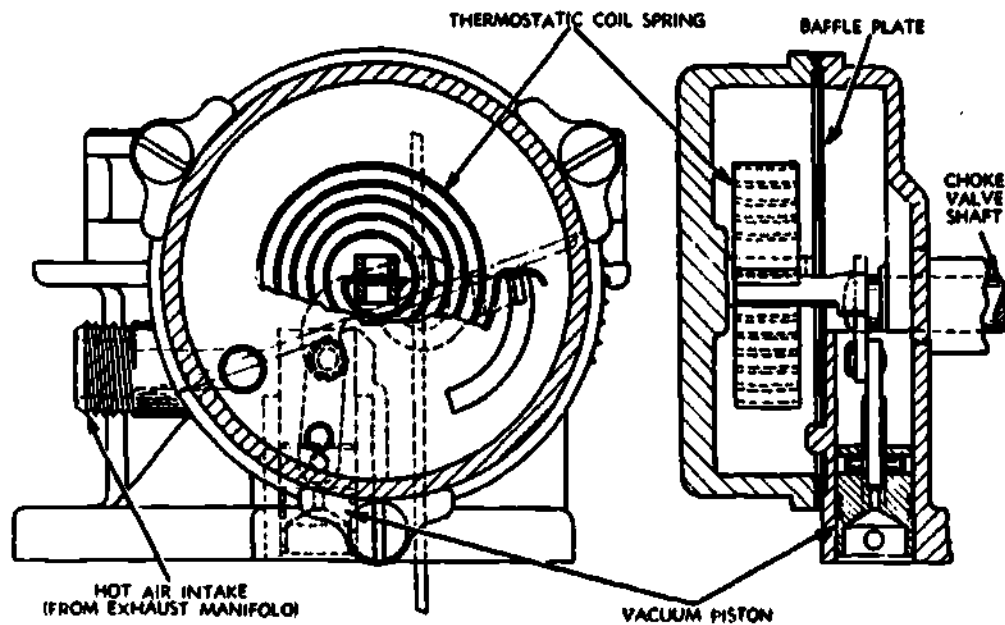

Fig 1-33. Automatic choke.
- (b) Automatic choke (fig 1-33). The automatic choke eliminates the human element and performs the choking operation automatically. It controls the air-fuel mixture for quick starting at any temperature. It also provides the proper amount of choking during the entire warm-up period.